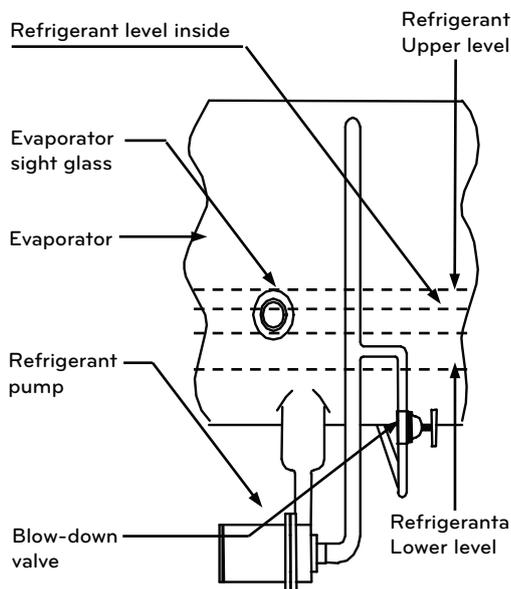

Figure 3-1. Blow-down
- ① Change the operation mode to manual at the 'Control Valve Manual' on the MICOM panel and close the 'Hot water Control Valve' to make a low heat capacity state. (Control valve opening to 30~50%).
- ② Rotate the blow-down valve counterclockwise as in Figure 3-1 to open it.
- ③ Check the amount of refrigerant through the evaporator sight glass.
- ④ Close the blow-down valve when the amount of refrigerant is reduced down to the bottom level.
- ⑤ Be aware of that refrigerant can move over to the absorber through the blow-down valve, thus the refrigerant pump performs no-load operation. And in case a refrigerant blow-down valve is attached, do not stop the refrigerant pump. If refrigerant pump stops in auto mode, then convert to MANUAL mode before putting it into operation. (When the temperature of chilled water is going down causing MICOM to be in auto mode, refrigerant pump stops automatically, thus be cautious of the low temperature of chilled water.)
- ⑥ When blow-down task is terminated, open a control valve in turn up to more than 70%, then convert to AUTO mode.